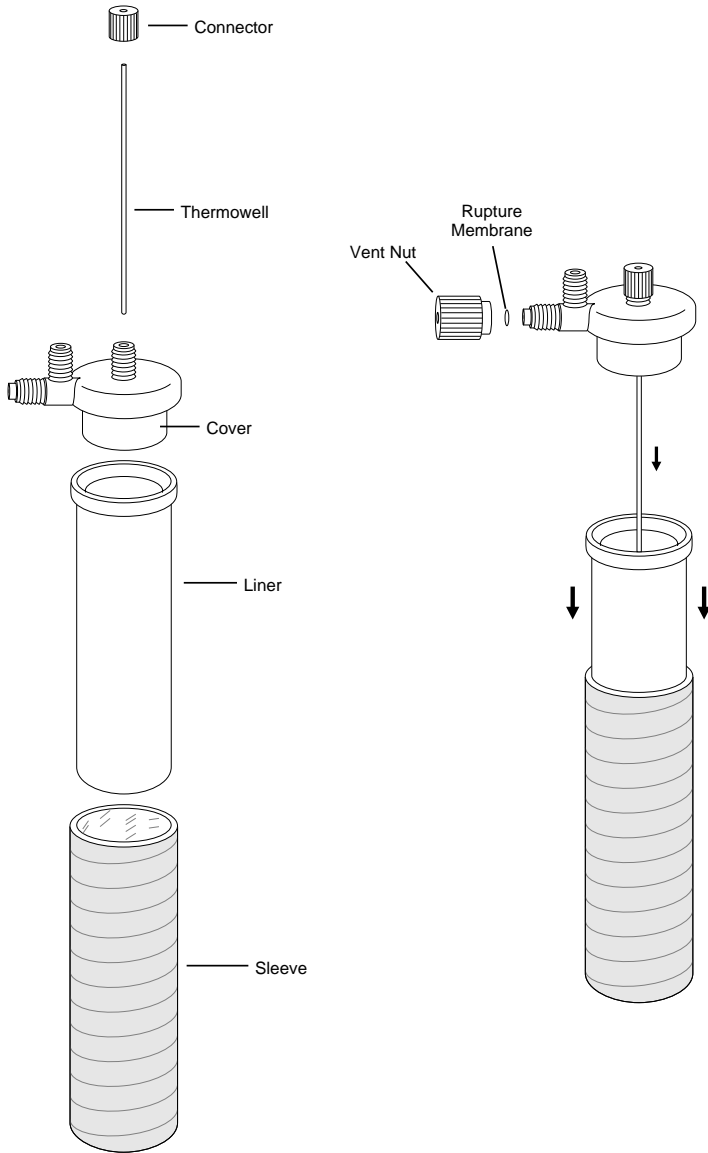

Figure 5. Assembly of Control Vessel for Pressure/Temperature Control
5. Thread the Teflon vent fitting onto the vent stem of the vessel cover as shown in figure 5. Tighten the pressure tubing leading from the ESP-1500 Plus to the pressure port on the control cover. Rotate the vessel so that the vent fitting is positioned toward the front of the support module (end with label).